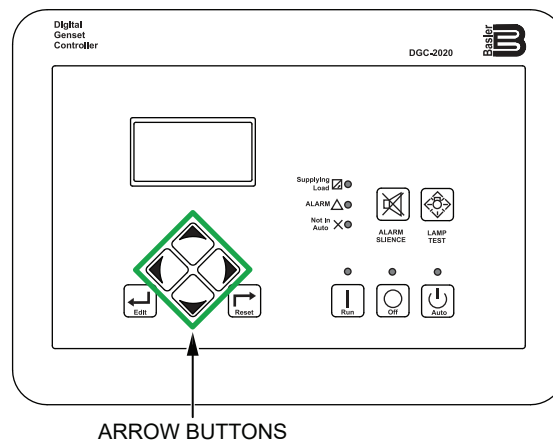

Figure 77. Digital Controller (Arrow Buttons)
2. Use the **Arrow buttons** (Figure 77) to navigate to the **Alarms Status menu** (METERING->ALARM-STATUS). This will allow the operator to perform the following diagnostics: